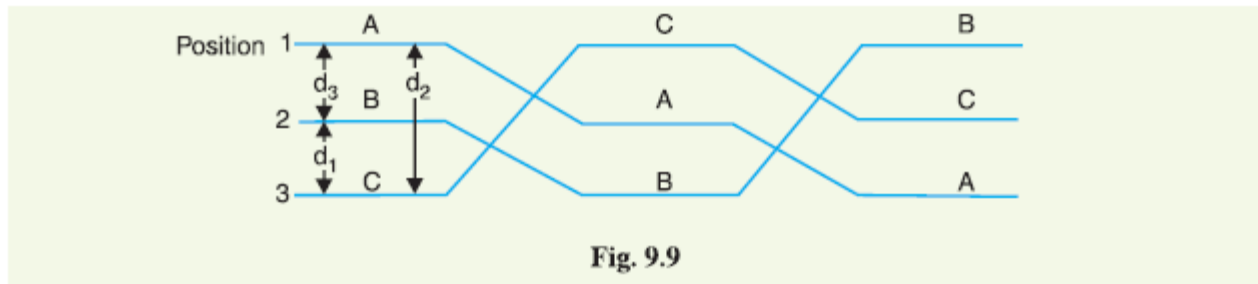

Fig. 9.9
**(ii) Unsymmetrical spacing.** When 3-phase line conductors are not equidistant from each other, the conductor spacing is said to be unsymmetrical. Under such conditions, the flux linkages and inductance of each phase are not the same. A different inductance in each phase results in unequal voltage drops in the three phases even if the currents in the conductors are balanced. Therefore, the voltage at the receiving end will not be the same for all phases. In order that voltage drops are equal in all conductors, we generally interchange the positions of the conductors at regular intervals along the line so that each conductor occupies the original position of every other conductor over an equal distance. Such an exchange of positions is known as **transposition**. Fig. 9.9 shows the
Fig. 9.9 shows a 3-phase transposed line having unsymmetrical spacing. Let us assume that each of the three sections is 1 m in length. Let us further assume balanced conditions *i.e.*,  $I_A + I_B + I_C = 0$ . Let the line currents be :